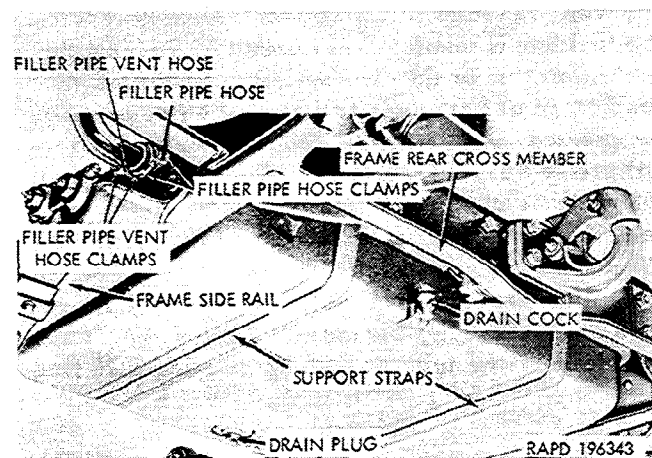

Figure 2-108. Fuel tank—bottom view.
(3) Loosen the clamps on the filler pipe hose and the filler pipe vent hose (fig. 2-108) and separate both hoses from the tank.
(4) Support the fuel tank, and remove the nuts and lockwashers that secure the two tank support straps (fig. 2-108) and holddown straps to the fuel tank support frame crossmember. Swing the two support straps down and toward the rear, out of the way.
(5) Remove the tank by lowering the right end first and working the left side from between the frame side rail and the vehicle body, being careful to avoid damage to the lower filler pipe and filler pipe vent line.
(6) Remove and discard the filler pipe hose and the filler pipe vent hose.
(7) If the fuel tank is to be replaced, remove the fuel tank cover complete with all related parts, the cover gasket, and fuel gage sending unit. Unscrew lower filler pipe and discard gasket. Unscrew nut and vent lower line, the drain cock, and drain plug (if so equipped).
(1) Loosen the lower hose clamps on the filler pipe hose (fig. 2-108) and the filler pipe vent hose, and free the two hoses from the lower filler pipe and the lower vent line.